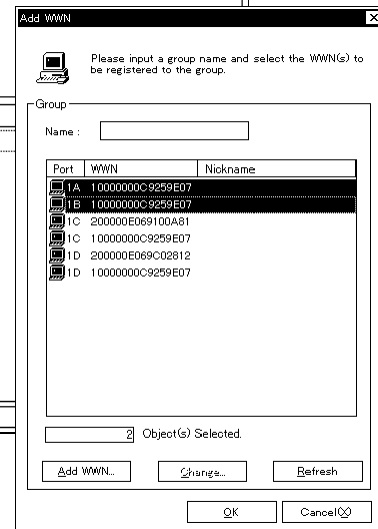

Figure 4.1.2
- ③ Since the Add WWN window (Figure 4.1.2) is displayed, select (CL) "WWN" registering from the list, and select (CL) the [OK] button.
- ④ The WWN that has been newly added is reflected in the lower right list.